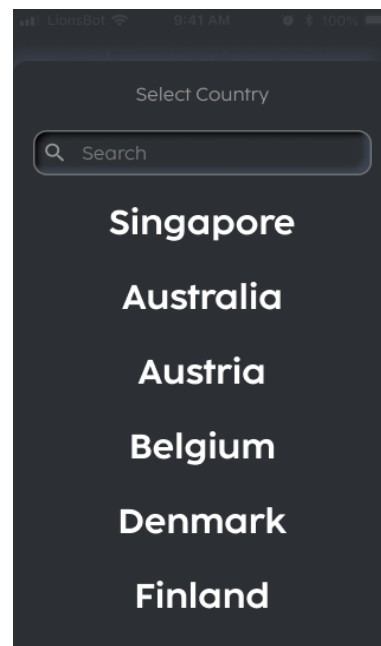

FIGURE 7-3
2. Check that the correct country is selected (Fig. 7-3) before clicking the 'Log in' button.